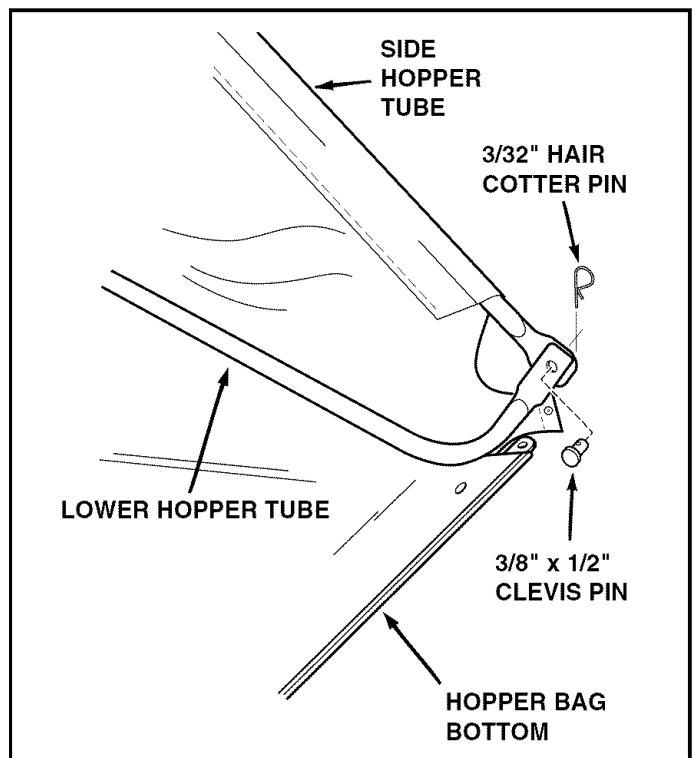

FIGURE 11
- Place the assembled lower hopper tubes into the bottom of the hopper bag as. See figure 11.
- Attach the ends of the lower hopper tubes to the **inside** of the side hopper tubes using two 3/8" x 1/2" clevis pins inserted from the inside, and two 3/32" hair cotter pins. See figure 11.